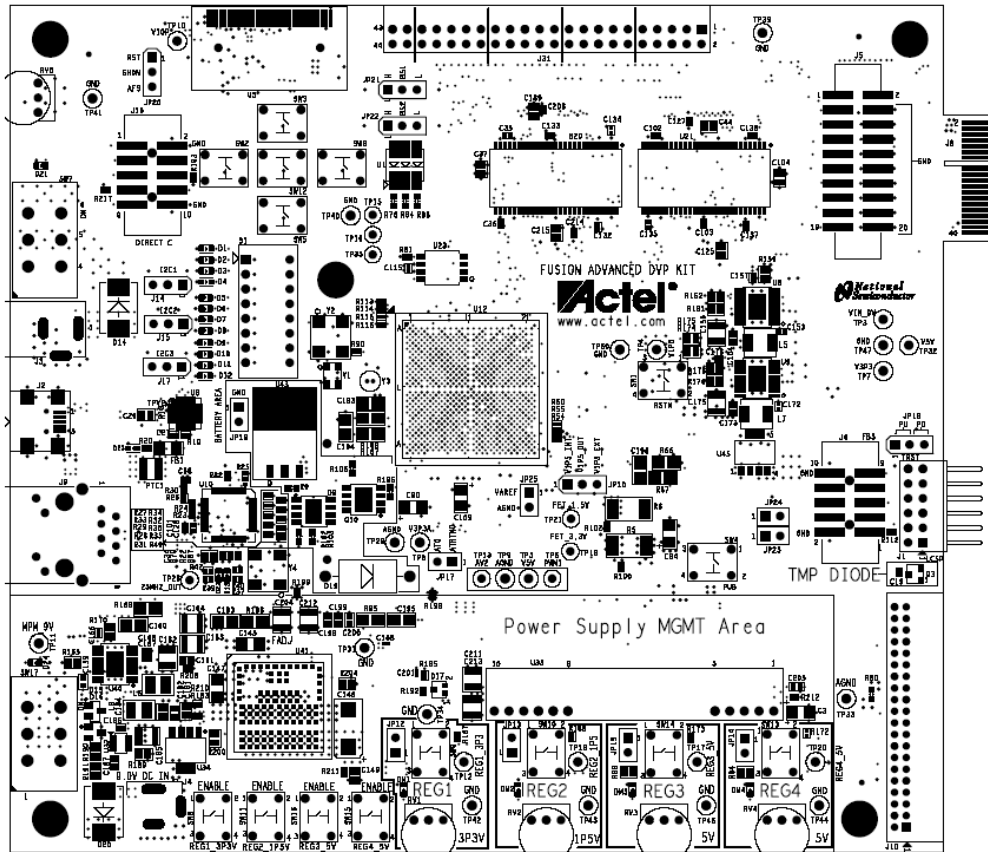

Figure B-1 · Layer 1, Top Silkscreen
The Fusion Advanced Development Kit board is built on a 10-layer printed circuit board (PCB). The top and bottom silkscreens are provided in Figure B-1 on page 52 and Figure B-2 on page 53. Full PCB design layout is provided in the Fusion Advanced Development Kit page. To view the PCB design layout files, you can use Allegro Free Physical Viewer, which can be downloaded from the Cadence website Allegro Download page:
- Layer 1: Top signal (Figure B-1 on page 52)